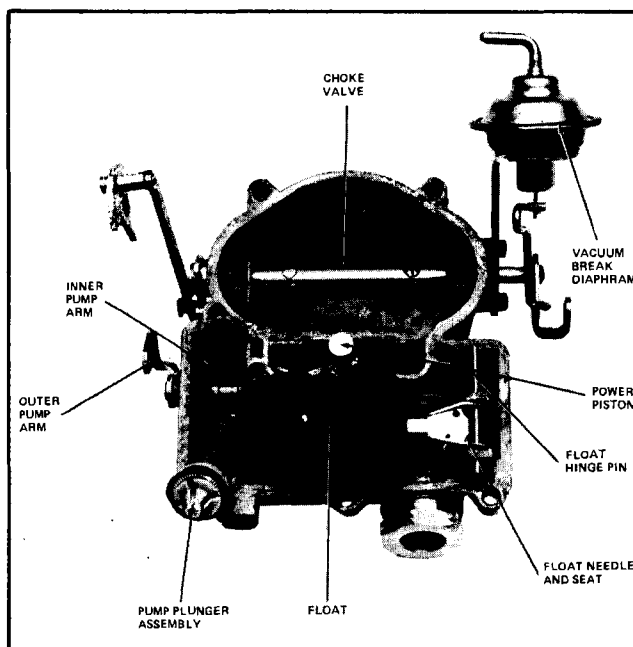

Fig. 6B-58 Air Horn Assembly
1. Remove fuel inlet filter retainer nut and gasket and remove filter (Fig. 6B-58).